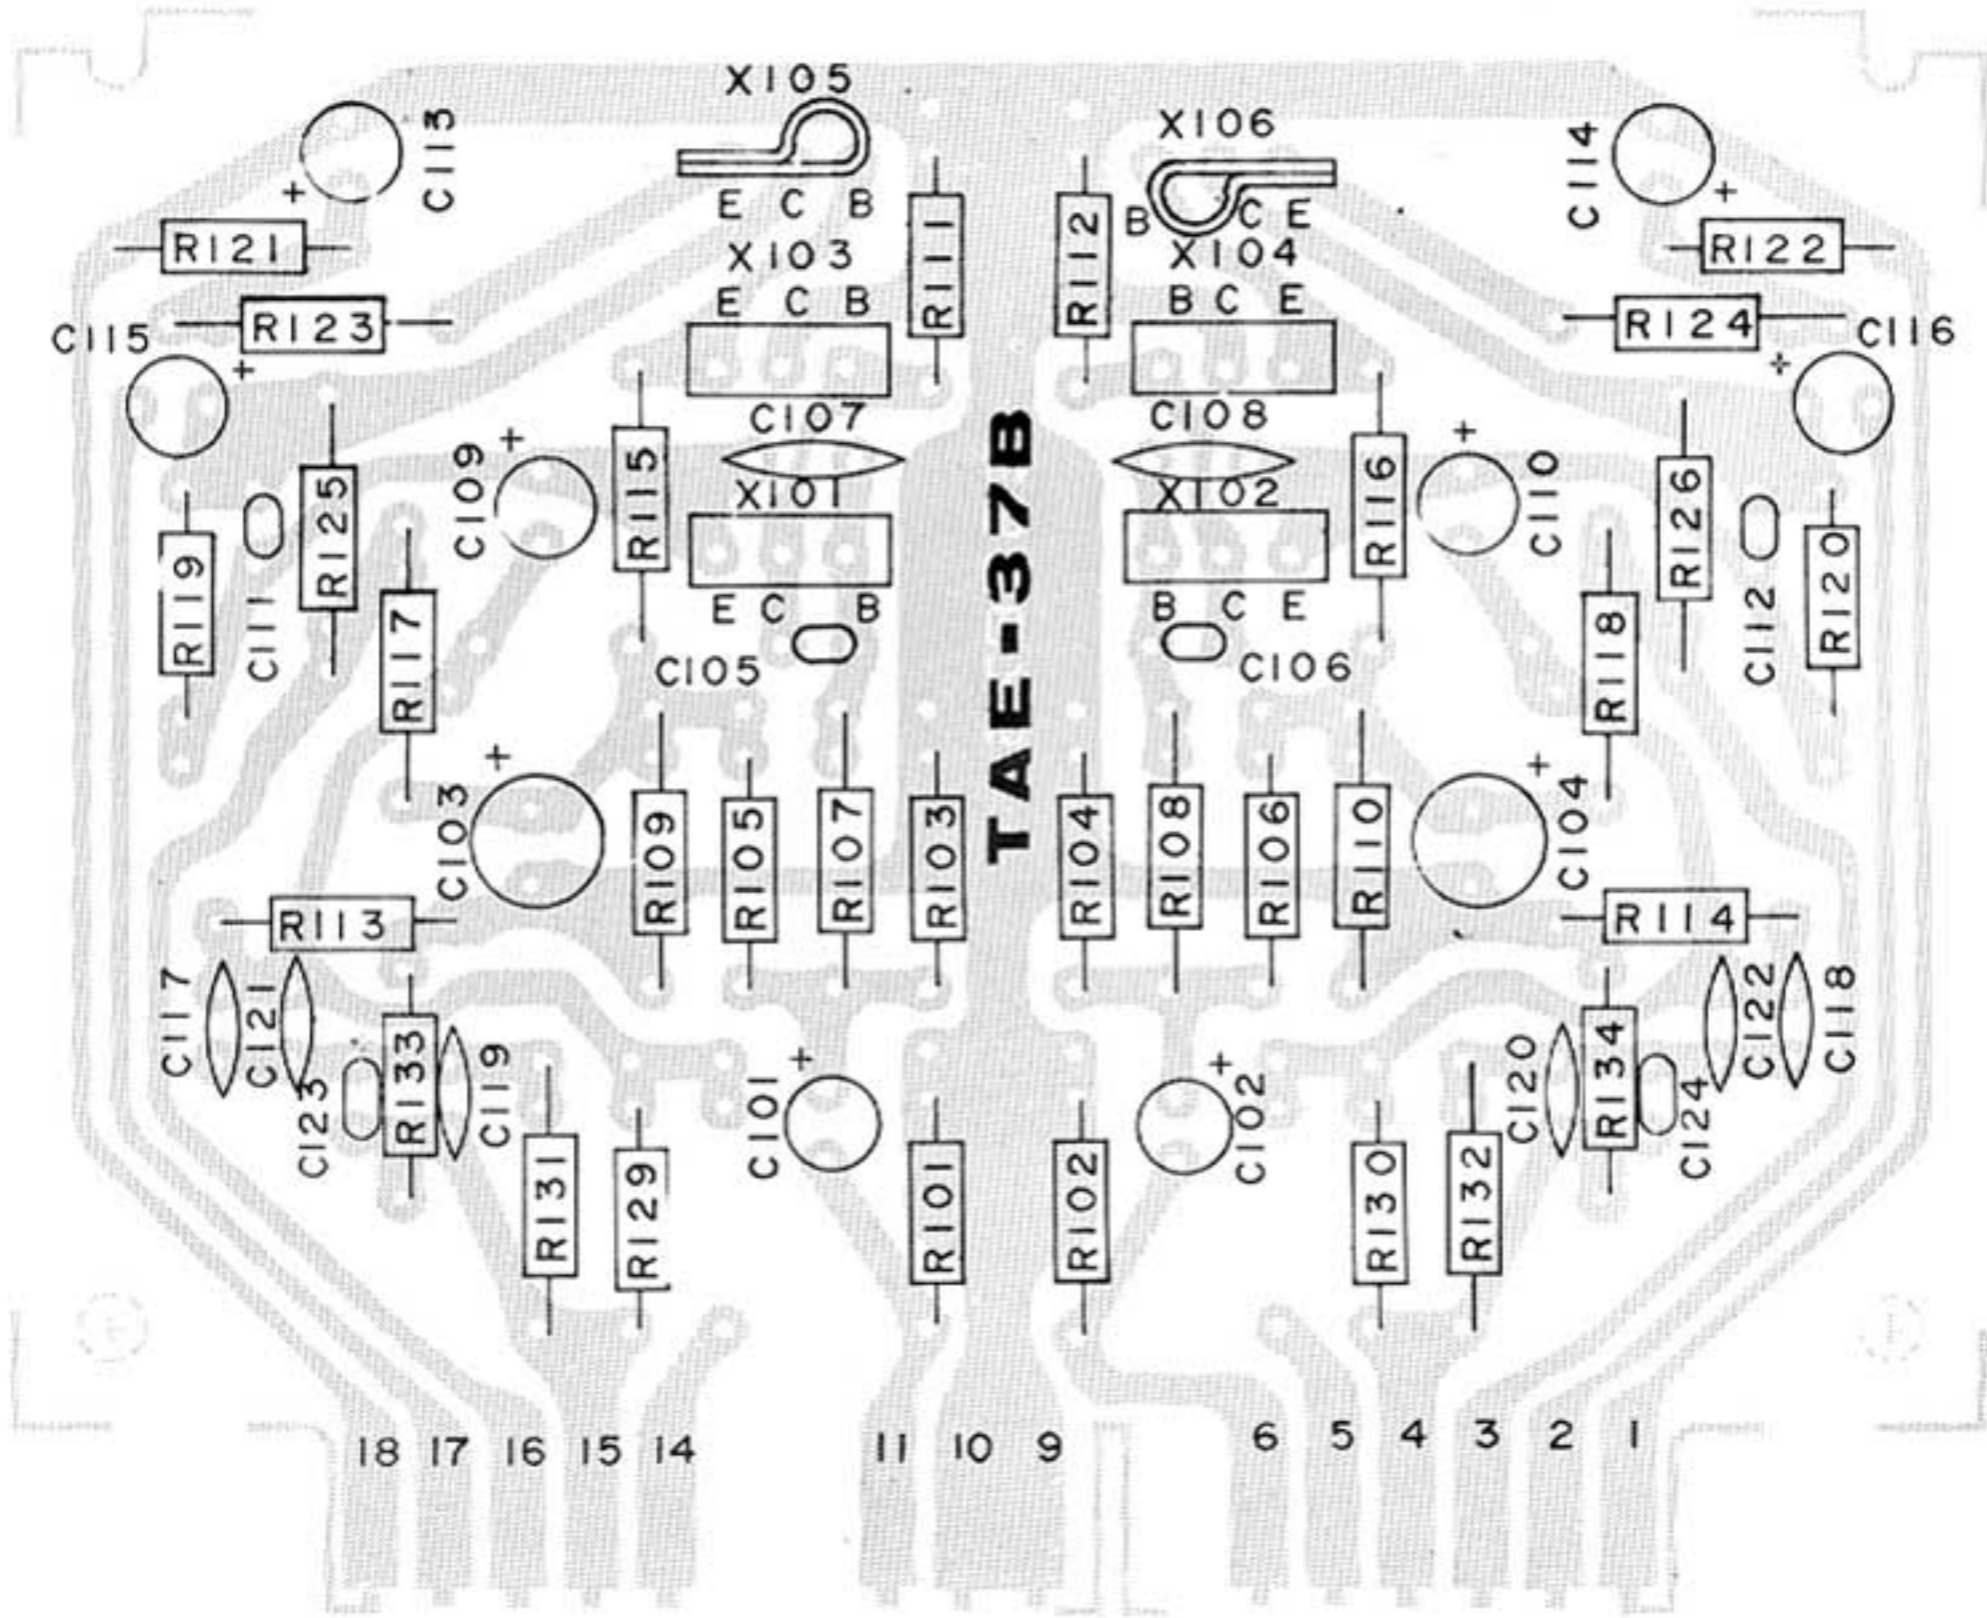

Fig. 8
**WIRE CONNECTION** (Fig. 8, 9)